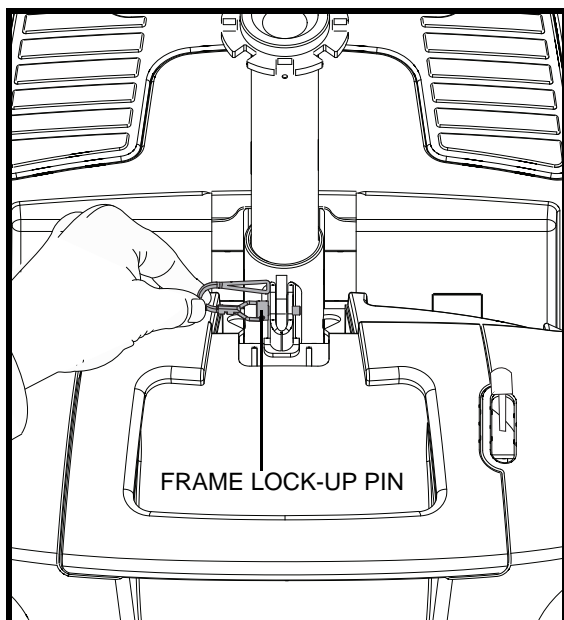

Figure 20. Frame Lock-Up Pin
2. Remove the frame lock-up pin. **See figure 20.**